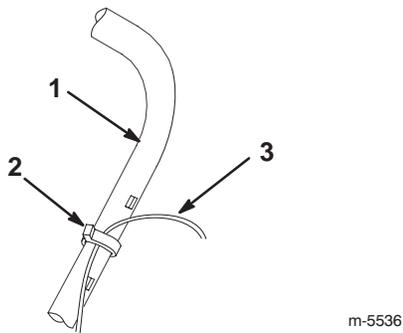

Figure 2
1. Cut the plastic tie that secures the control cable to the handle (Fig. 2).